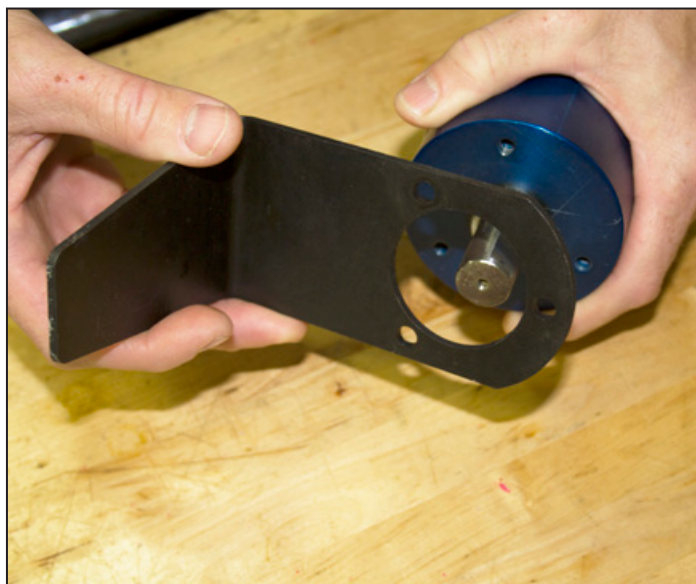

Figure 10
4. Identify Torque Arm and Tapping Head (both included) as shown in **Figure 10**.
5. Using an M4 hex wrench, remove three screws on top of the Tapping Head (see **Figure 10**); set aside.
6. Place Torque Arm over 3/4" arbor on Tapping Head as shown in **Figure 10**; fasten securely with three screws removed in step 2.